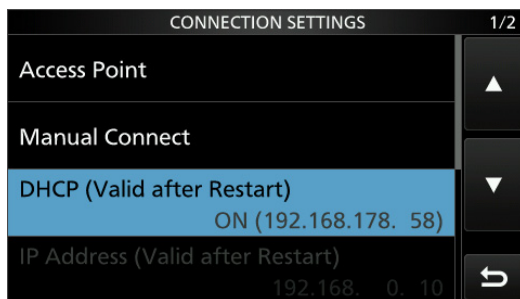
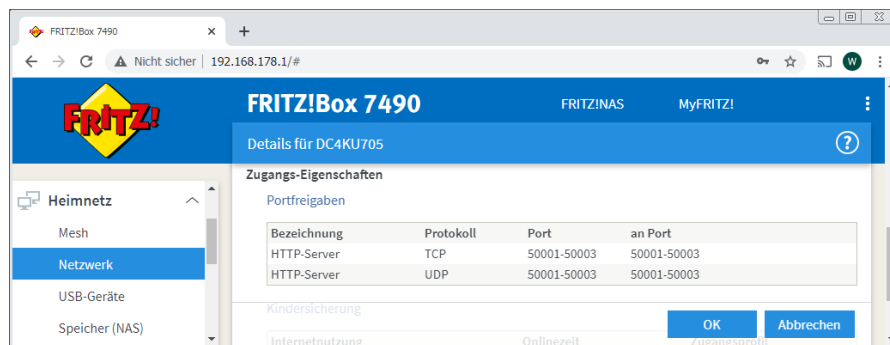
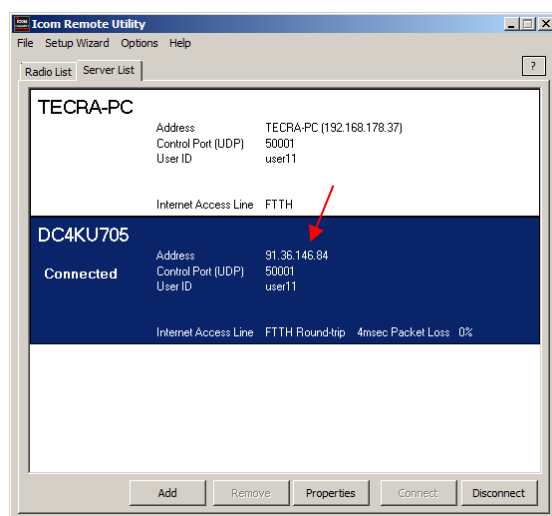

Figure 15: DHCP address of the IC-705: 192.168.178.58
Figure 20: Setting Port Forwarding in Router
Figure 21: Enter the "public IPv4 address" of the router into the IC-705 server
The IC-705 has a built-in server and a WLAN interface, which simplifies the connection to the RS-BA1 remote control software (1). First, the IC-705 must be connected to the home WLAN router via WLAN. To do it go to Menu -> Set to WLAN and switch WLAN to ON. Then go to Connection Settings -> Access Point and select the access point of the WLAN router. Enter the password of your router and the IC-705 will connect to the WLAN router. The DHCP address of the IC-705 appears in the display (Fig. 15), write it down!
For remote control via the Internet, it is only a small step. In the router, under Network (DC4KU705) -> Shares, the ports 50001 to 50003 must be forwarded (**Fig.20**) and the IP address is no longer the DHCP of the IC-705 (see Figure 15) but the "public IPv4 address" of the router. This address can be found in the router under Internet -> Online Monitor, in my case it is 91.36.146.84. Then open Icom Remote Utility -> Server List and enter the IPv4 address of the router under Address (**Fig. 21**).